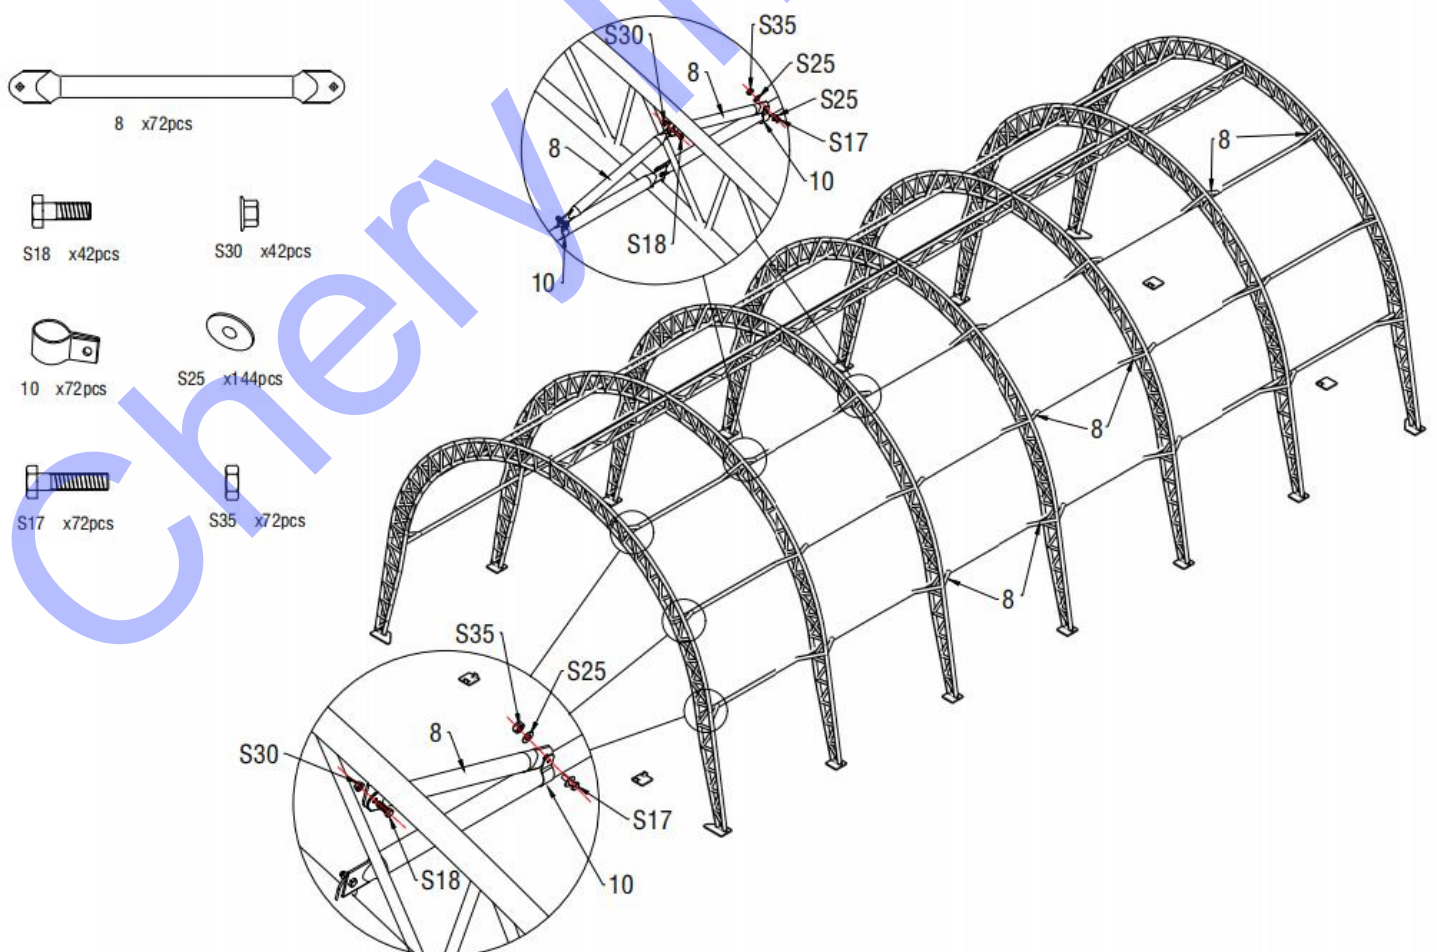

Figure 9
5. Fix clips(No.10) on purlins(No.7) and install the Diagonal Support Tube For purlin (No.8) on clips as figure 9 shows. Please connect the Diagonal Support Tube For purlin (No.8) between arch frame and purlin (No.7) by using Screw M10x30(No.S18) and Screw M10x50(No.S17) with plain washer M10(No.S25).